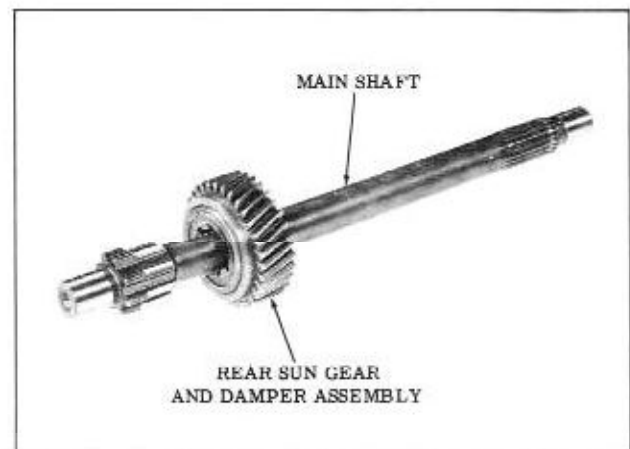

Fig. 3-102 Rear Sun Gear
19. Install rear sun gear on mainshaft. (Fig. 3-102)